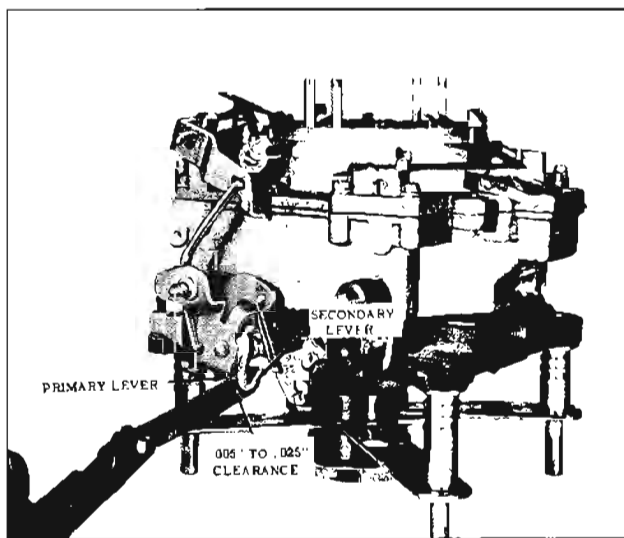

Fig. 9-193 Secondary Actuating Level Adjustment
3. Remove slack from linkage and insert a feeler gauge between the actuating lever and the primary lever. (Fig. 9-193)